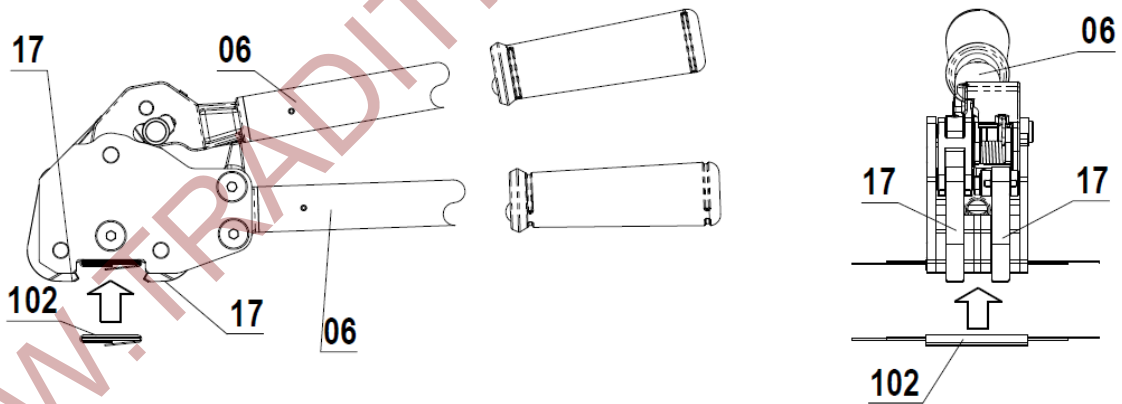

Fig. 2
1. Place **Jaws 17** of the tool across the middle of the **Seal 102** as shown on Fig. 2